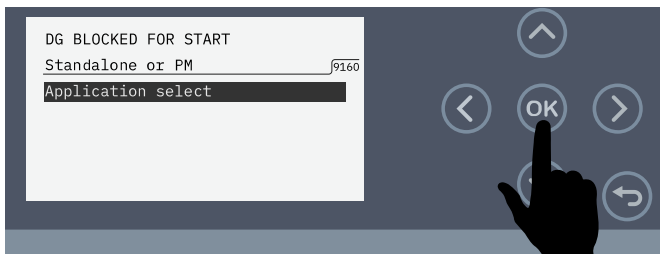

Figure 89. Select Application Select
6. Make sure **Application Select** is highlighted (Figure 89), then press the OK button.